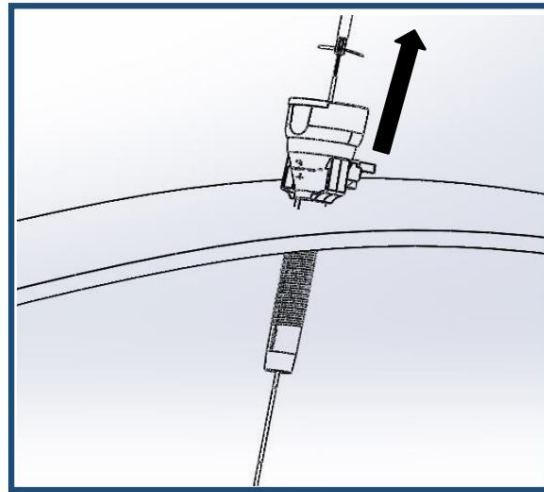

Figure 5 - Procedure for grasping the "T" of the loop and removing it through the trocar.
- 6 - Insert the loop from the distal side into the introducer body and push until the first marking, as shown in figure 5.